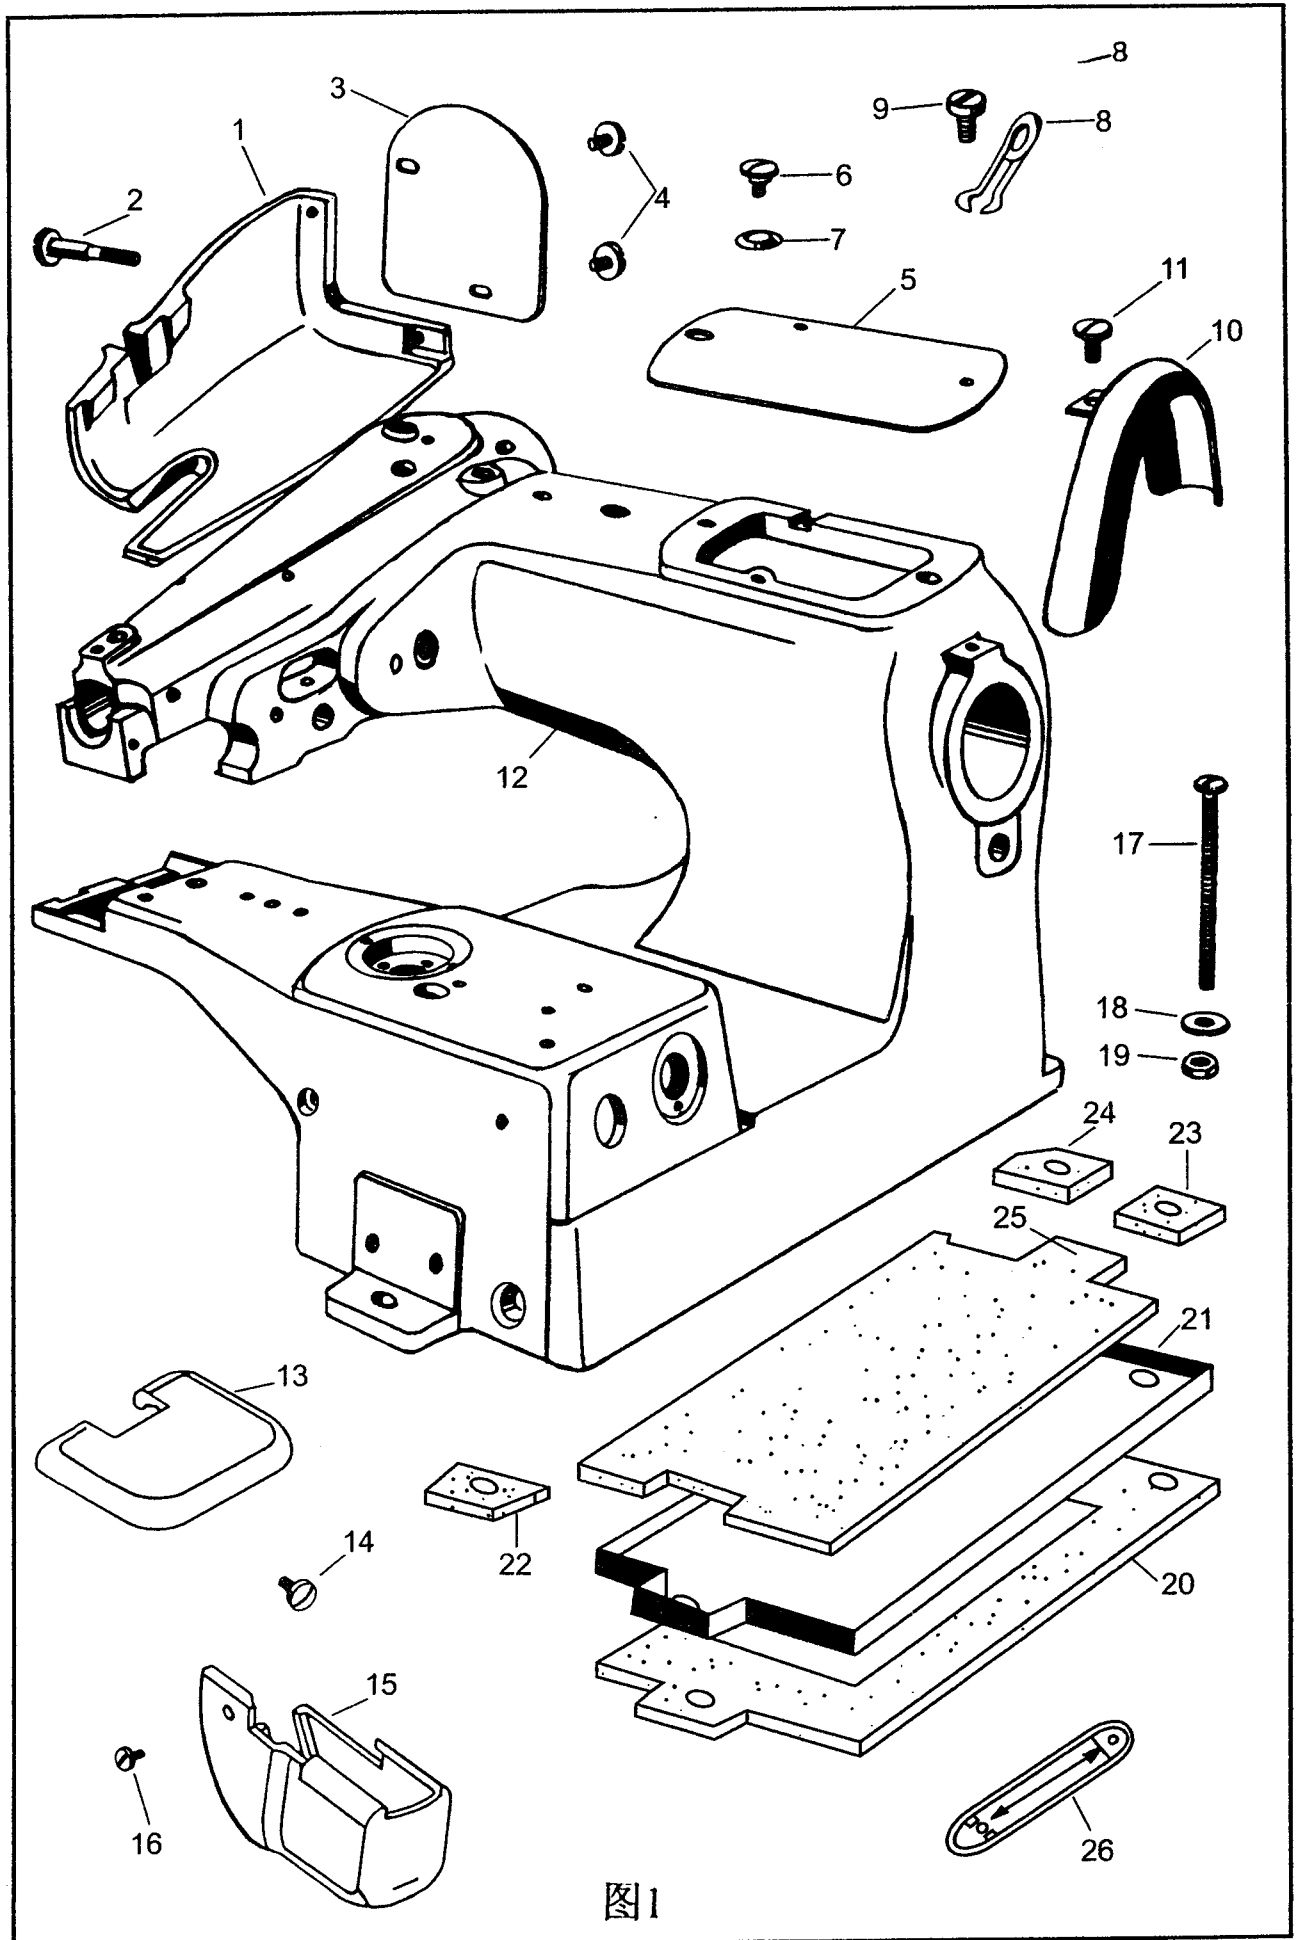

图1
Notice: The distance between small pulley and workplate should be about 60mm. (Fig. 1).
3. Lining cloth is installed on the big bulley. (Fig.1) Clamp the front part of the lining cloth with the clamp. Then above the main material. (Fig.6)